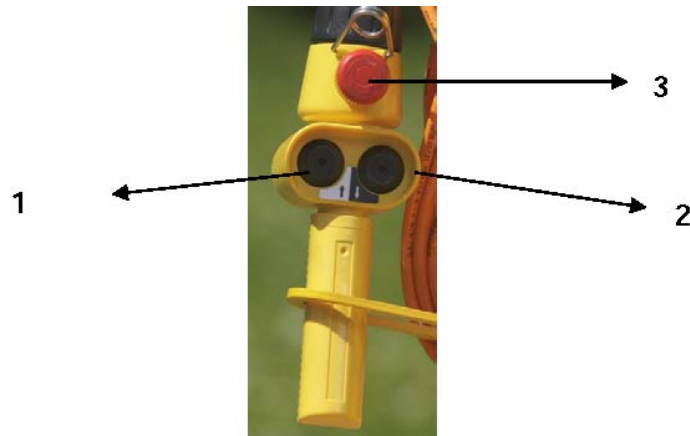

Figure 8
When the winch is properly connected, we can begin with unwinding of the wire rope. On tractors without a socket with constant current of 12 V, we can connect a supply cable in the socket, which is usually made for connection of light equipment on the trailer. Because of this, we have to turn on the position lights. On the steering console (figure 8), press the left button to release the brake. Hydraulic cylinder shifts to position 1. If we disengage pressure on the button in less than 3 seconds, the brake cylinder shuts and the winch is again open and unwinding is not possible. If this button is pressed for more than 3 seconds, the function shifts from "impulse" to "constant release" and despite not holding the button, the cylinder stays in the open position and the winch in unwinding function. When unwinding, we have to be careful not to unwind the wire rope completely or leave at least three winds on the drum. This distance is marked on the wire rope. Due to safety reasons, the wire rope is installed on the drum so that if the logs start to slide without control, the rope must "pull" itself off the drum. If the rope was pulled out with excessive force, we can pull out the entire wire rope during pulling. In this case, replace it according to the procedure, foreseen for wire rope installation. If the wire rope is very tight and we wish to release it, we have to do it impulsively with quick presses 2-3 times on the left button. This prevents the wire rope to unwind too quickly from the drum and that the wire rope is not too loose. It also prevents the logs to slide downhill.
We can start pulling, when the winch is on the ground and properly strengthened. Apply the hand brake on the tractor. If the PTO shaft is engaged and the hydraulic system requires pressure, we can start pulling. Press the right button on the steering console (pos. 2, figure 8). The wire rope starts winding on the drum. When we release the button, the winding stops.
For hydraulic system, oil for hydraulic systems ISO 32 is used. In summer months, when the ambient temperature surpasses 25 °C, oil ISO 46 needs to be used. First oil change needs to be done after 1000 hours of operation. Each next oil change must occur after 1000 hours of operation or at least once a year. During operation, oil temperature needs to be controlled. If this surpasses 70 °C, the cardan must be stopped and the reason of overheating must be determined. If you do not have a thermometer present, you can check the oil temperature by touching the hydraulic line. This can be done only with the engine stopped. Otherwise, the hydraulic system can malfunction. Oil level is controlled with a gauge on the tank cover (figure 13). This is the place, where oil is filled. For any kind of intervention in the hydraulic system, you must release pressure in the system. This is achieved by pressing the left button on the control console (pos 1, figure 8), until the pressure drops to 0 bar (pos 1, figure 14). Before starting, you must first remove both the triangular protection from the winch column and the PTO protection. Drain the oil from the reservoir (figure 13) at the pipe which is installed between the pump and tank. At the bottom of the reservoir you can find a filter that needs to be replaced every time you change the oil. It is also necessary to clean the high pressure filter (pos 2, figure 14).